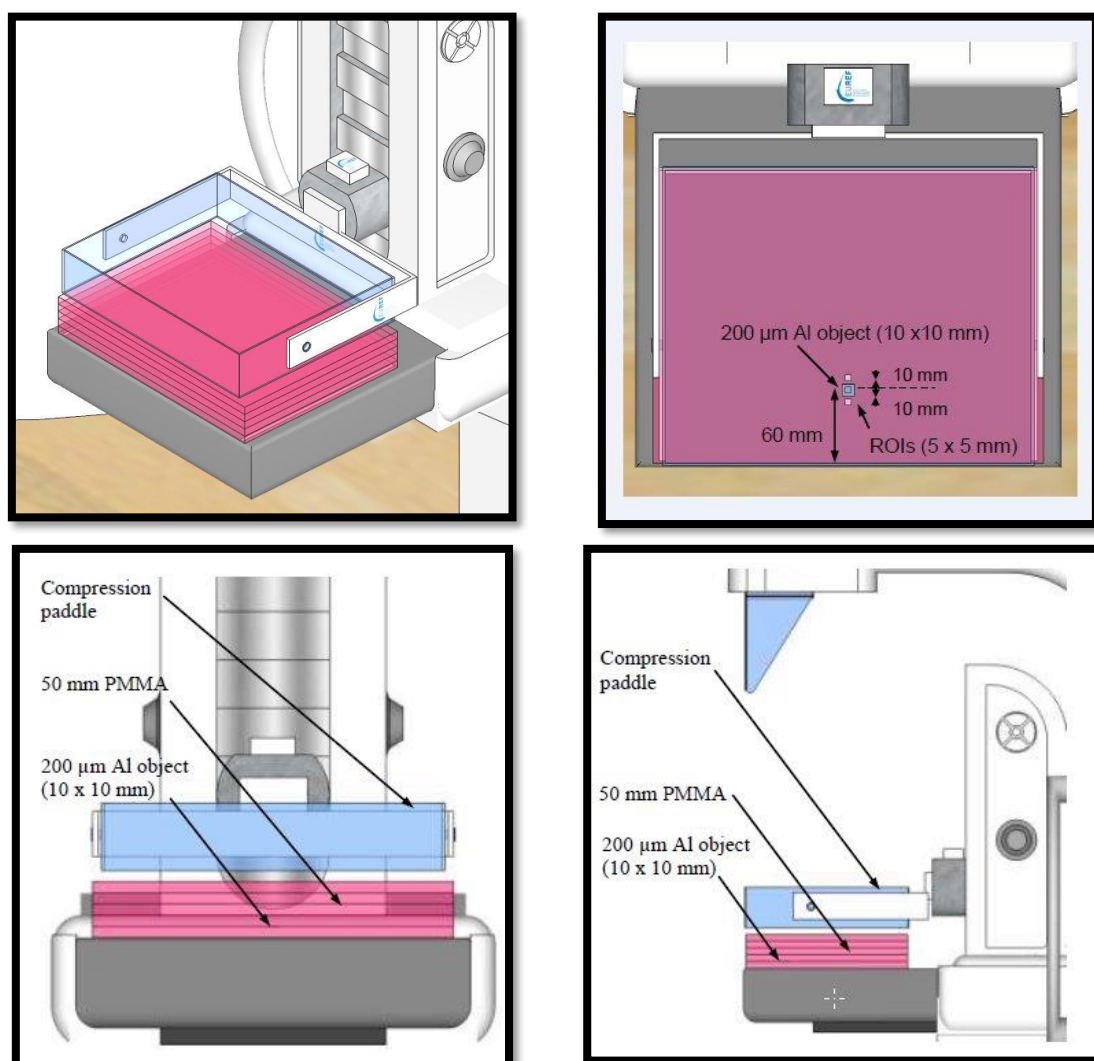

Figure 2b – Plexiglas blocks imaging
- The Plexiglas block is positioned on the bucky, laterally centred. A square of aluminium 10x10x0.2 mm is put at 6 cm from the edge of the bucky, laterally centred, on the 20 mm plate (Figure 2b).